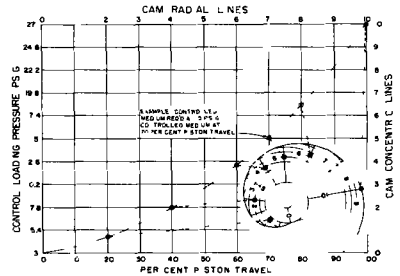

FIGURE 11 Locating Points for Shaping Positioner Cam
- 1 On the cam selected in step 4 (see "Characterized Cams"), locate for each increment of control loading pressure (concentric lines) that power operator piston position (radial lines) required for the specific loading pressure, as determined on page 8. Refer to Figure 11 for the method of locating these points.